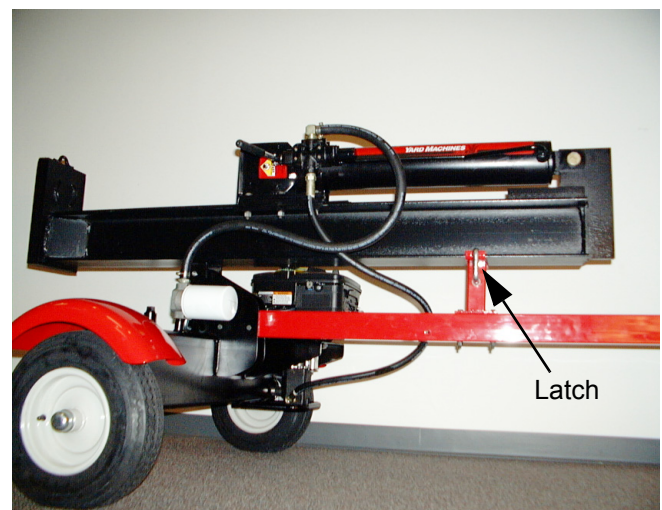

Figure 1
1. Latch the log splitter in the horizontal position.____ See Figure 1.